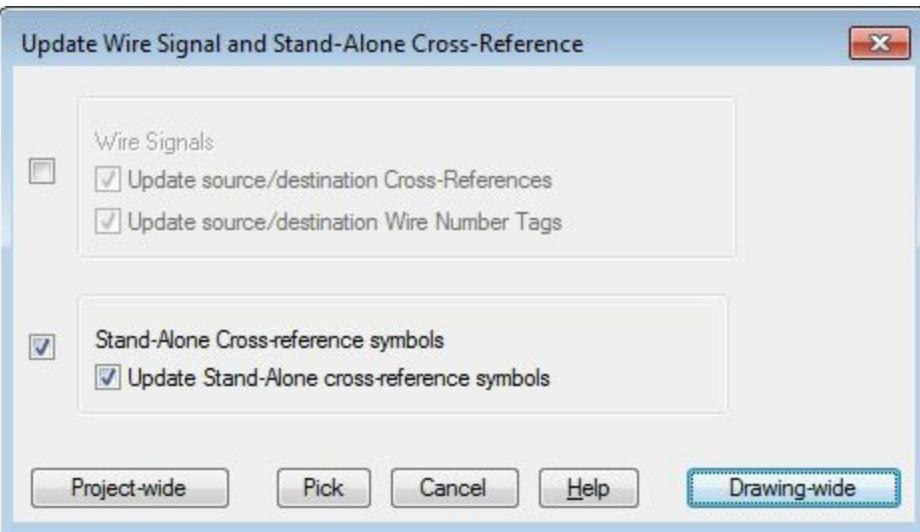

Figure-47. Update Wire Signal and Stand-Alone Cross-Reference dialog box
- Click on **Update Stand-Alone Cross-Referencing** tool from the **Cross References** drop-down. The **Update Wire Signal and Stand-Alone Cross-Reference** dialog box will be displayed; refer to Figure-47.